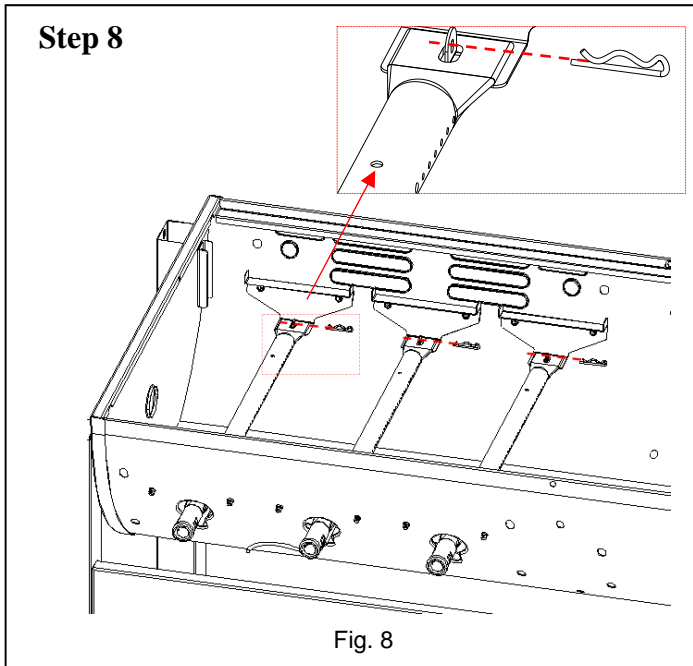

Fig. 8
- 2. The Burners must be assembled with the hole for the Cross-over Tubes, facing up as shown as Fig. 8.**
Then assemble the slot at the back of the Burner over the post in the Burner Brackets. Insert (1) R clip through the hole in each post as shown as Fig. 8.